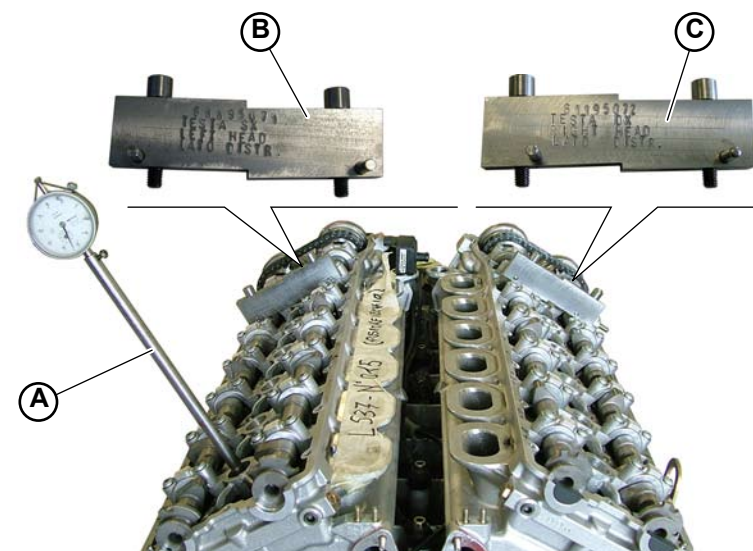

Fig.5
- Assemble the dial gauge (**A-Fig.5**) on cylinder no. 1.
- Assemble the timing tools on the heads (**000200-12c**), being careful to install the LH tool on the left head (**B-Fig.5**) and the RH tool on the right head (**C-Fig.5**).